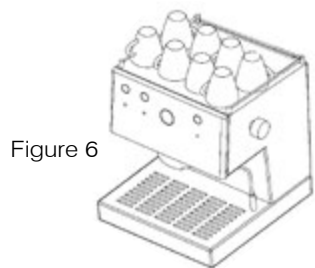

Figure 6
3. Place the cups on the cup warmer **9**. Espresso is best at optimal temperature (40°C/105°F). (See figure 6)